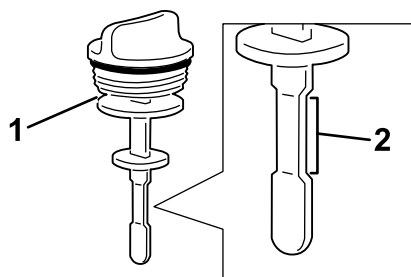

Figure 87
4. Remove the dipstick from the filler neck and check the fluid level (Figure 87).